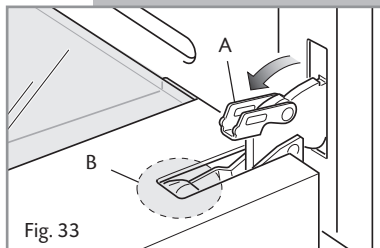
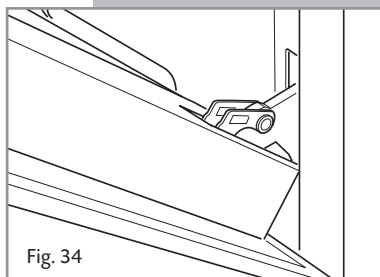

Fig. 33
Fig. 34
- Fully open the lever **A** on the left and right hinges (Fig. 33).
- Gently close the door (Fig. 34) until the left and right hinges are hooked to part **B** of the door (Fig. 33).
1. Make sure the door is locked open (see fig. 34).